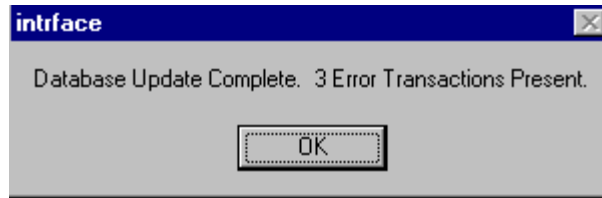

Figure 8-29. Interface Error Window
5. If any errors occurred, you see a message with the number of error transactions (see Figure 8-29). Click **OK**.